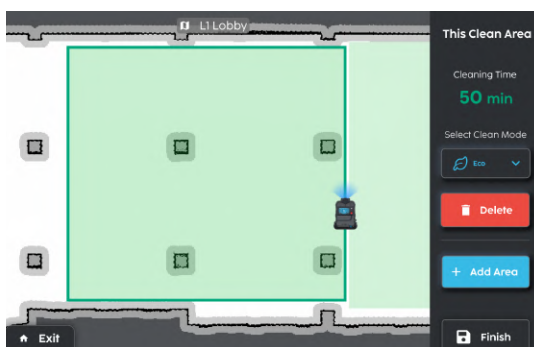
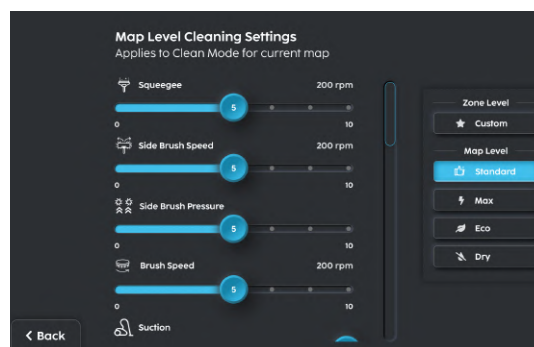

FIGURE 4-19
FIGURE 4-20
17. Select the preferred cleaning mode from the dropdown menu (Fig. 4-19) (Fig. 4-20).